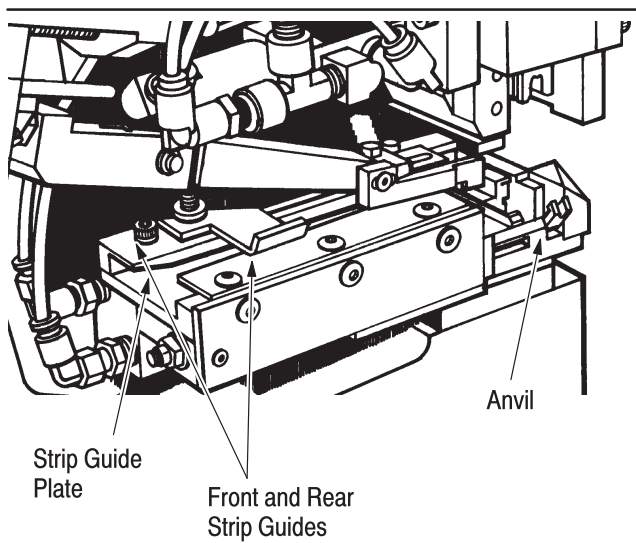
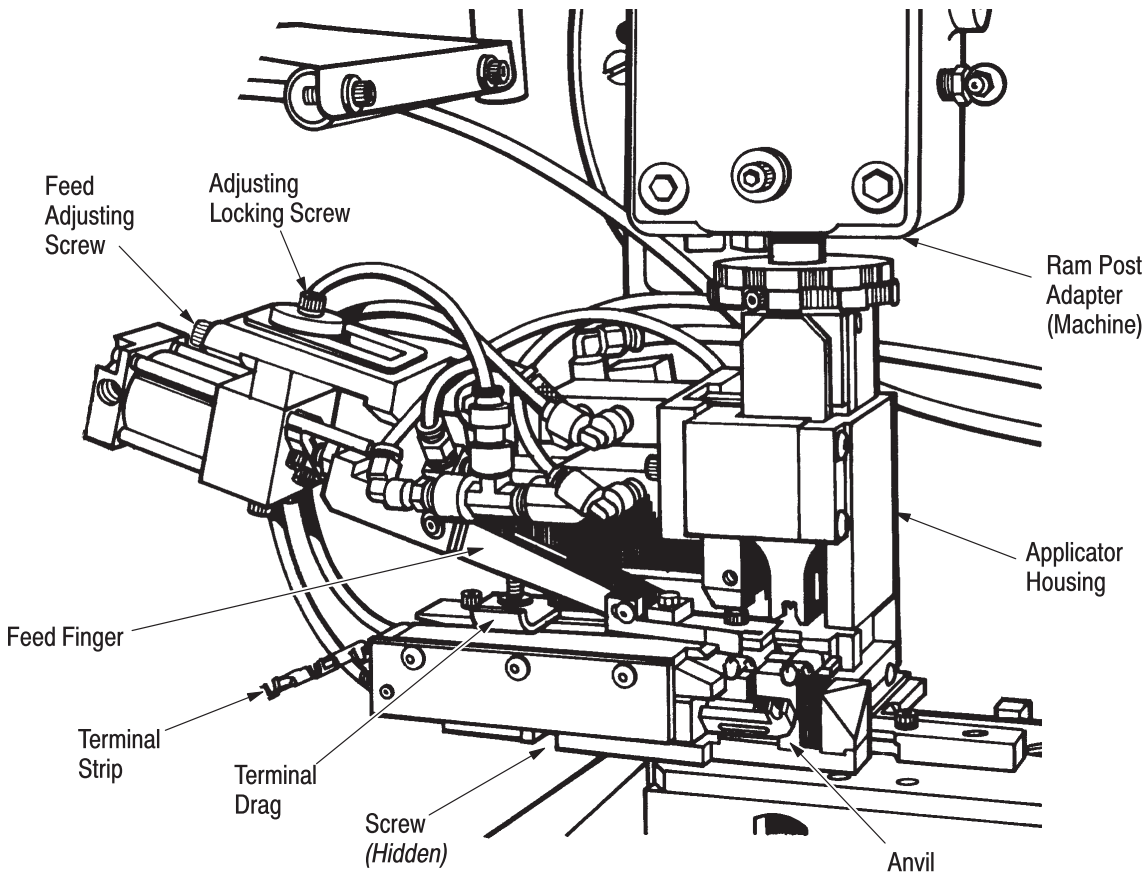
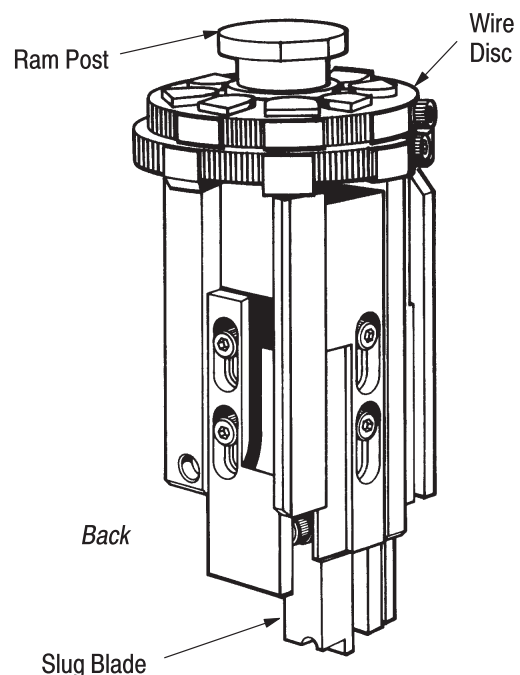

Figure 4
Figure 6
Figure 7
3. Raise terminal drag, then feed the terminal strip into the applicator between strip guides (See Figure 6).
3.2. Unloading (Figure 6)
4.2. Terminal Strip Feed Adjustment (Figure 6)
4.3. Strip Guide Plate Adjustment (Figure 4 and Figure 6)
4.4. Strip Guide Adjustment (Figure 4)
2. Determine if front or rear strip guide is to be adjusted. BOTH strip guides must be parallel with the front edge of the strip guide plate. See Figure 4.
4.5. Slug Blade Adjustment (Figure 7)
2. Rotate applicator's wire disc (upper disc, See Figure 7) to align selected pad letter with bosses on machine ram (post adapter, See Figure 6). This will provide proper crimp height for that wire size.
5.2. Anvil Replacement (Figure 6)
5.3. Slug Blade Replacement (Figure 7)